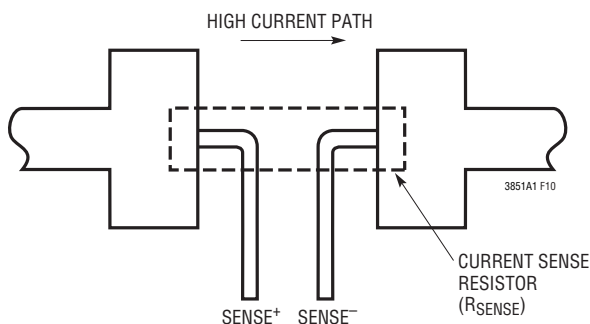

Figure 10. Kelvin Sensing  $R_{SENSE}$
- Are the  $SENSE^-$  and  $SENSE^+$  leads routed together with minimum PC trace spacing? The filter capacitor between  $SENSE^+$  and  $SENSE^-$  should be as close as possible to the LTC3851A-1. Ensure accurate current sensing with Kelvin connections as shown in Figure 10. Series resistance can be added to the  $SENSE$  lines to increase noise rejection and to compensate for the ESL of  $R_{SENSE}$ .
- Keep the switching node (SW), top gate node (TG) and boost node (BOOST) away from sensitive small-signal nodes, especially from the voltage and current sensing feedback pins. All of these nodes have very large and fast moving signals and therefore should be kept on the “output side” (Pin 9 to Pin 16) of the LTC3851A-1 and occupy minimum PC trace area.